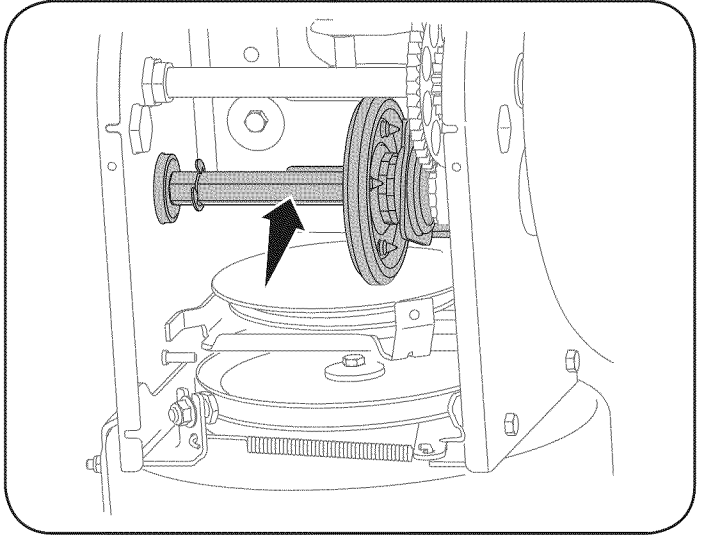

Figure 16
4. Apply a light coating of engine oil (or 3-in-1 oil) to the hex shaft. See Figure 16.